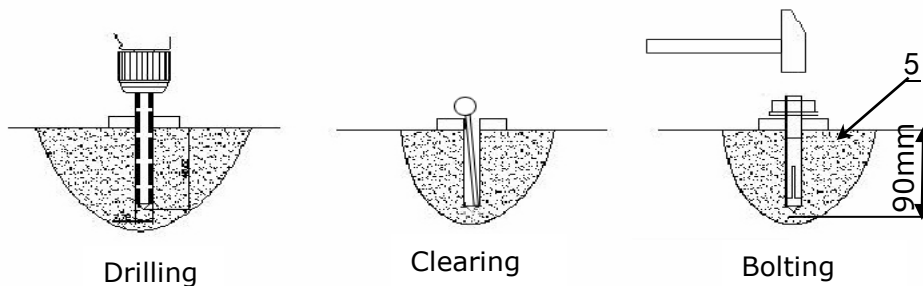

Fig. 14
2. Using the prescribed rotary hammer drill, and drill all the anchor holes and install the anchor bolts. Do not tighten the anchor bolts (See Fig. 14).